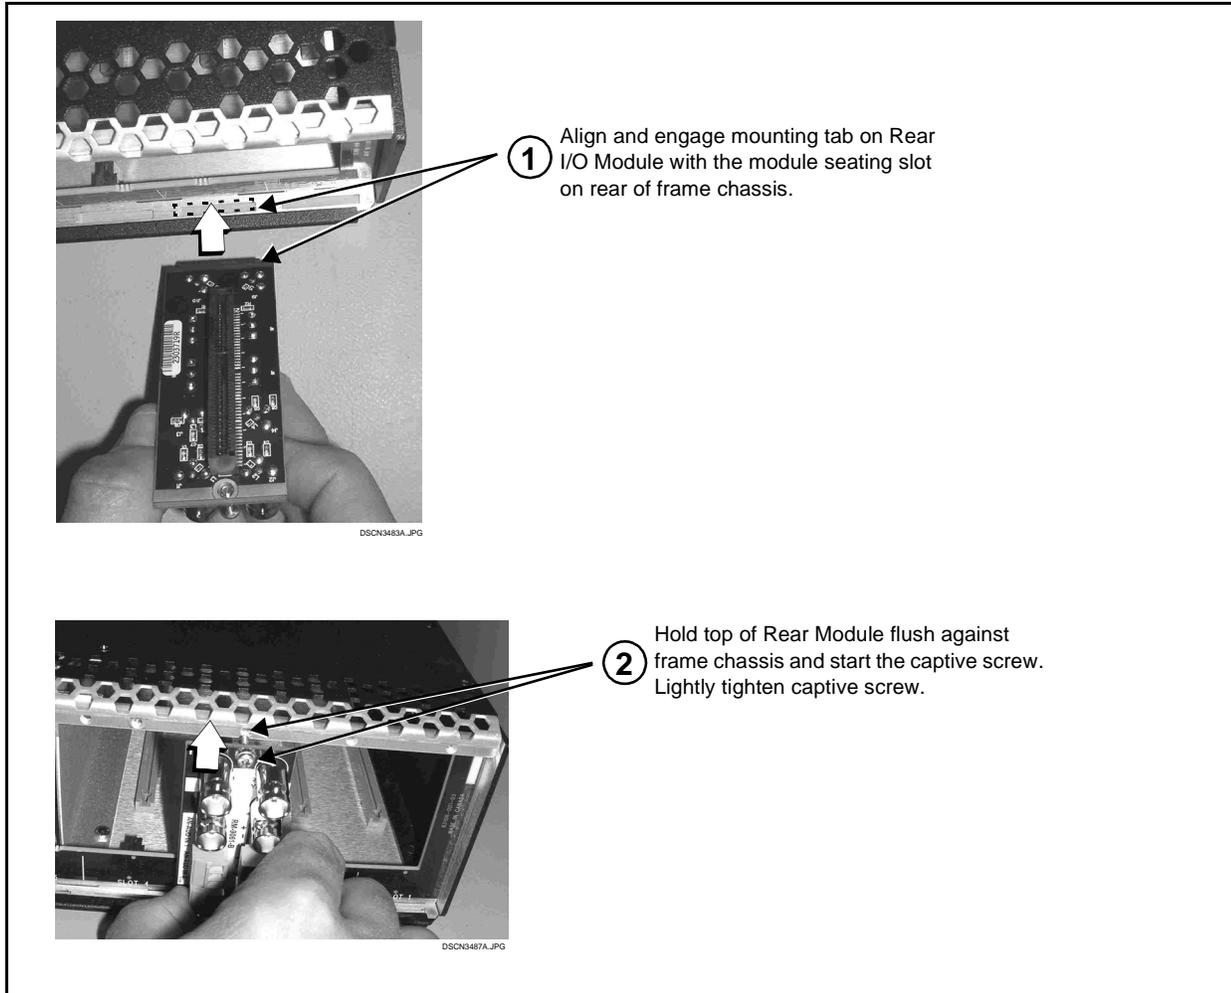

Figure 2-1 Rear Module Installation
2. In the mounting area corresponding to the slot location, install Rear Module as shown in Figure 2-1.